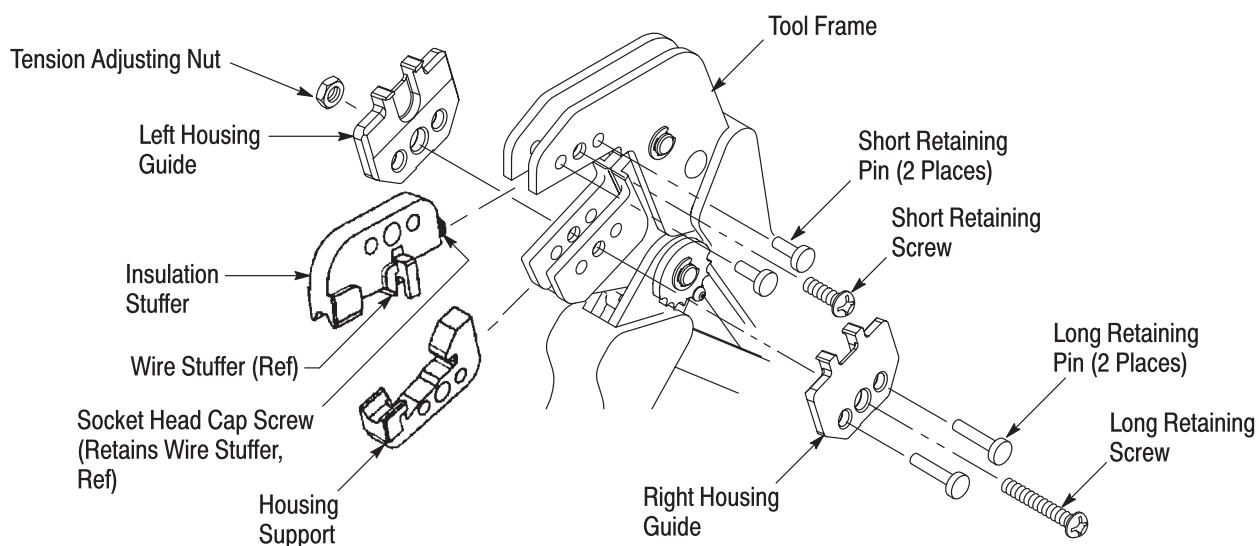

Figure 2
2. Orient the insulation stuffer as shown in Figure 2, and insert it into the stationary jaw of the tool frame. Align the holes with the associated holes in the tool frame. Insert the short retaining pins and short retaining screw into the holes in the tool frame. Tighten the screw.
3. Orient the housing support as shown in Figure 2, and insert it into the moving jaw of the tool frame. Align the holes with the associated holes in the tool frame. Orient the right housing guide as shown, and mount it onto the tool frame using the long retaining pins. Insert the long retaining screw through the hole in the right housing guide. Tighten the screw.
4. Refer to Figure 2. Orient the left housing guide as shown, and secure it onto the tool frame using the tension adjusting nut. Tighten the tension adjusting nut using an assembled modular plug connector assembly.
1. Install the wire stuffer onto the insulation stuffer using the 4-40 UNC x .621 in. socket head cap screw included with the die assembly. Refer to Figure 2.